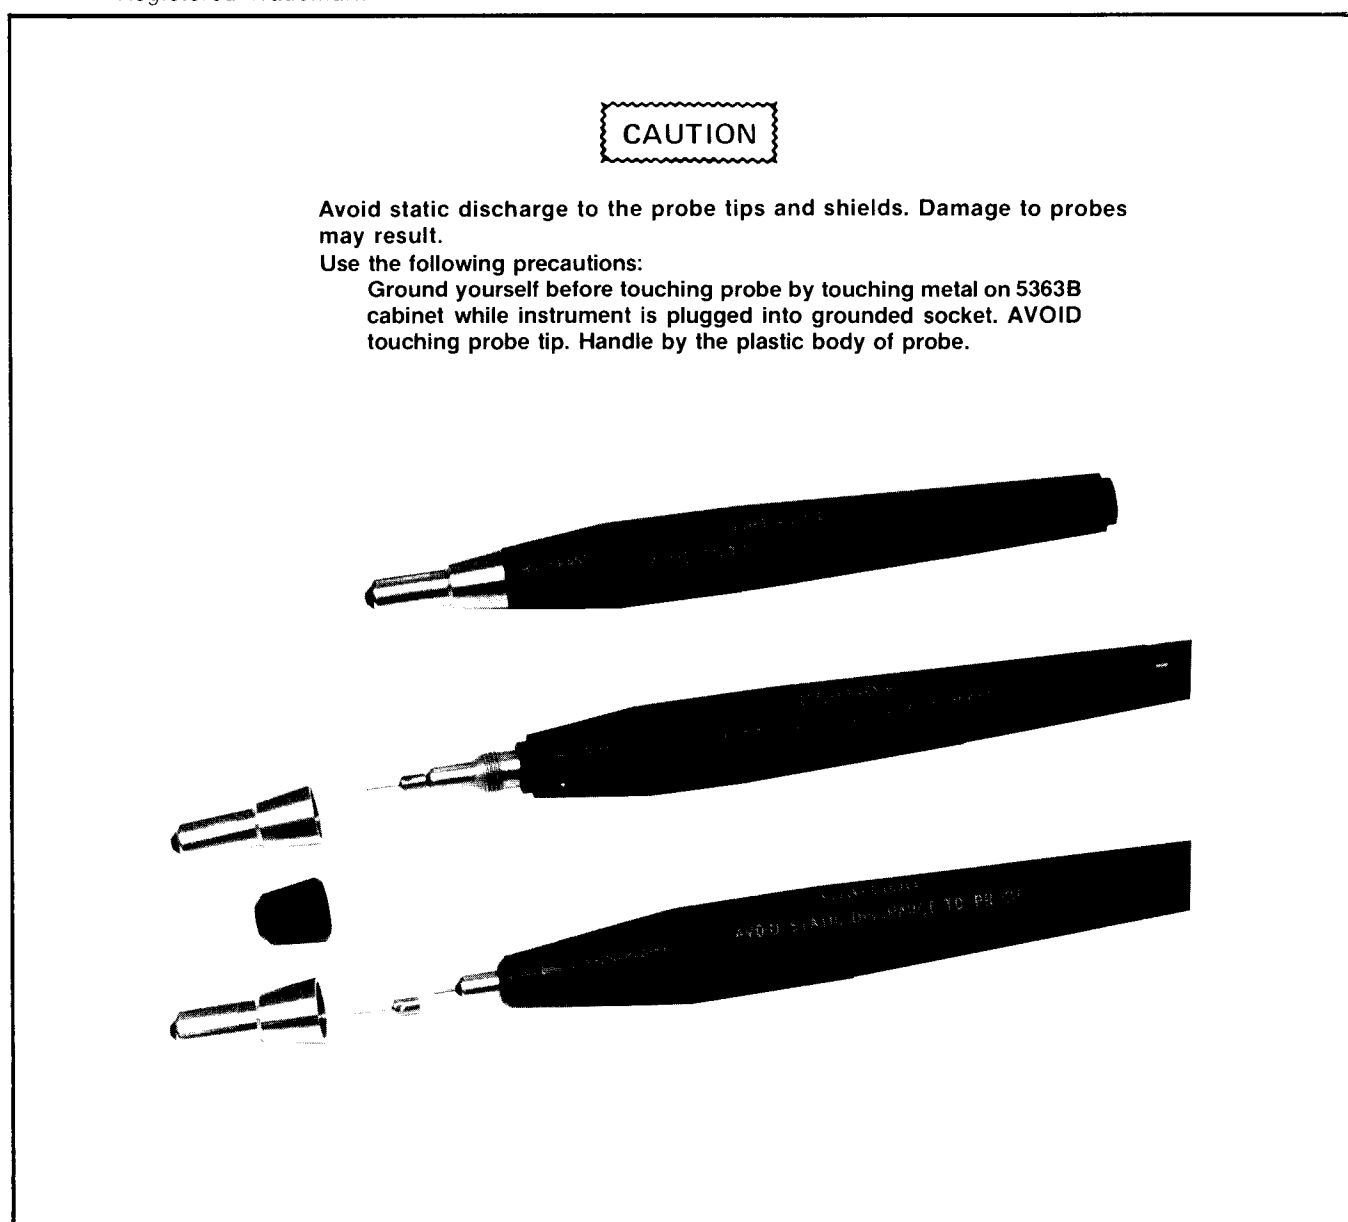

Figure 1-2. Changeable Probe Tips and Probe Cautions
5. AVOID STATIC DISCHARGE TO THE PROBE TIPS. DAMAGE TO THE PROBES MAY RESULT. FOLLOW CAUTIONS IN *FIGURE 1-2.*
1-16. The probes have an input impedance of 1 Meg ohm and an input capacitance of  $<15$  pF. For use with either Hewlett-Packard or Tektronix® RF hardware, the tip of the probe unscrews to allow the tip to be changed to mate with the specific manufacturer's equipment, see *Figure 1-2*.